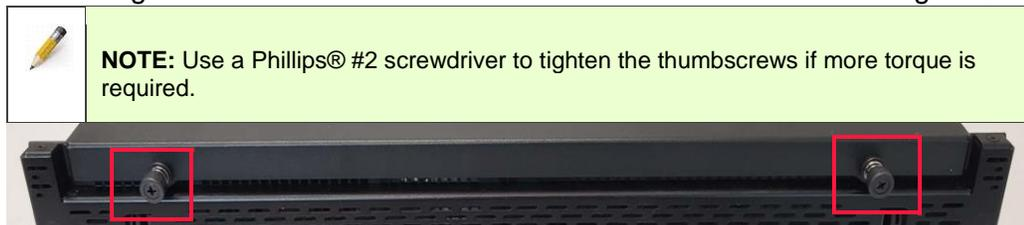

Figure 6.21 Top cover thumbscrews
3. Tighten the left and right enclosure cover thumbscrews located at the front edge of the chassis cover. The thumbscrews are identified in Figure 6.21.